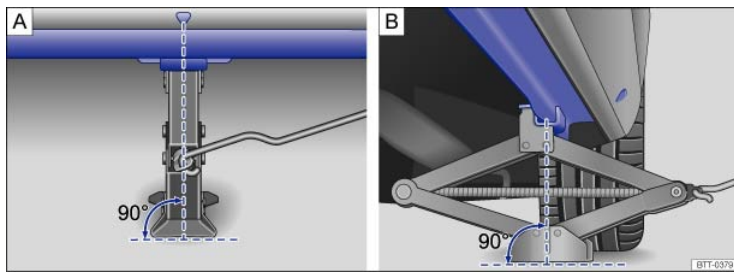

Fig. 182 Jack in position at the left rear lift point.
- Position the jack only at the described vehicle lift points. Before you raise your vehicle, always make sure the jack claw properly grips the vertical rib under the sill so that the jack does not slip off when you are raising the vehicle ⇒ Fig. 182.